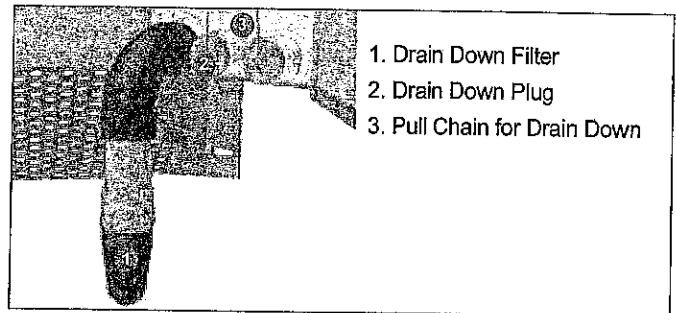

Fig.10 The Drain Down Filter.
6. Use a screwdriver to unscrew the Drain Down Filter from the face of the Outlet Module (see Fig.10). DO NOT DISCARD THIS PIECE.